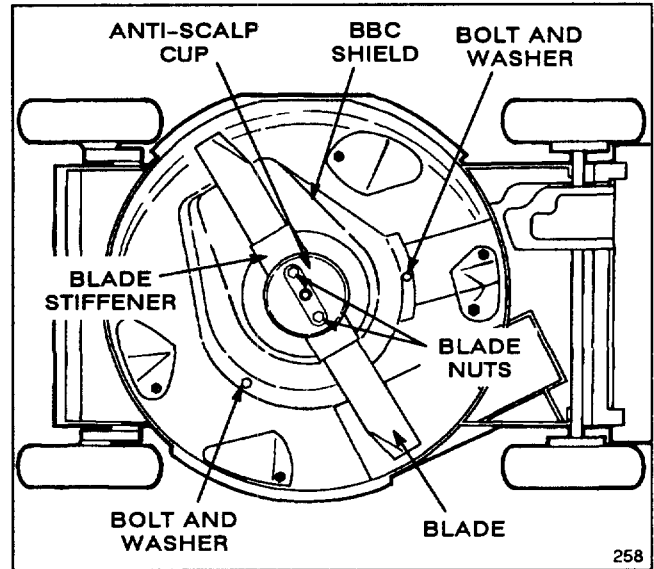

Figure 21
4. Remove (2) blade nuts, anti-scalp cup, blade stiffener, blade, and (3) bolts and washers securing BBC shield to mower deck (Fig. 21).